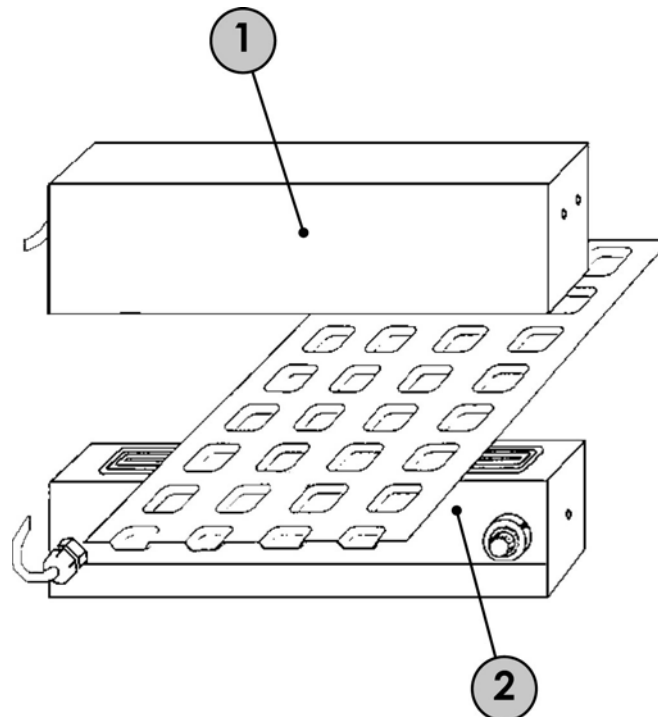

Fig. 1
- El iluminador (Fig. 1 – Ref. 1)
- El receptor (Fig. 1 – Ref. 2)